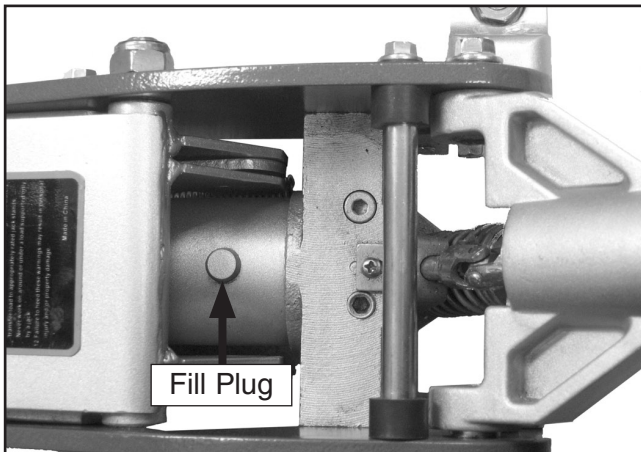

Figure 1. Fill plug.
2. Remove the fill plug shown in **Figure 1**.